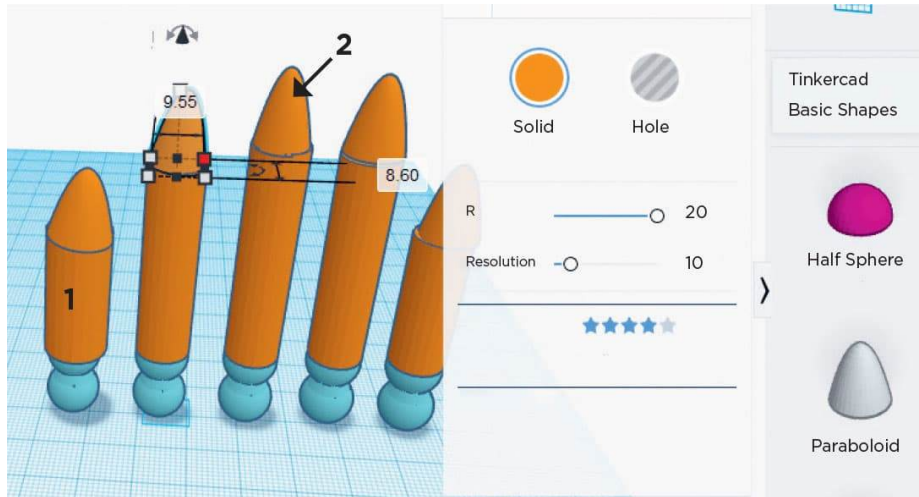

FIG. 5: Add a fingertip to each finger.
6. Create the middle phalanx by repeating steps 2–4 to create the middle phalanx and matching ball of the knuckle (fig. 5, #1).
7. Add the fingertip using the **Paraboloid** tool as shown in fig. 5, arrow 2. Repeat step 5 and 6 for all fingers.